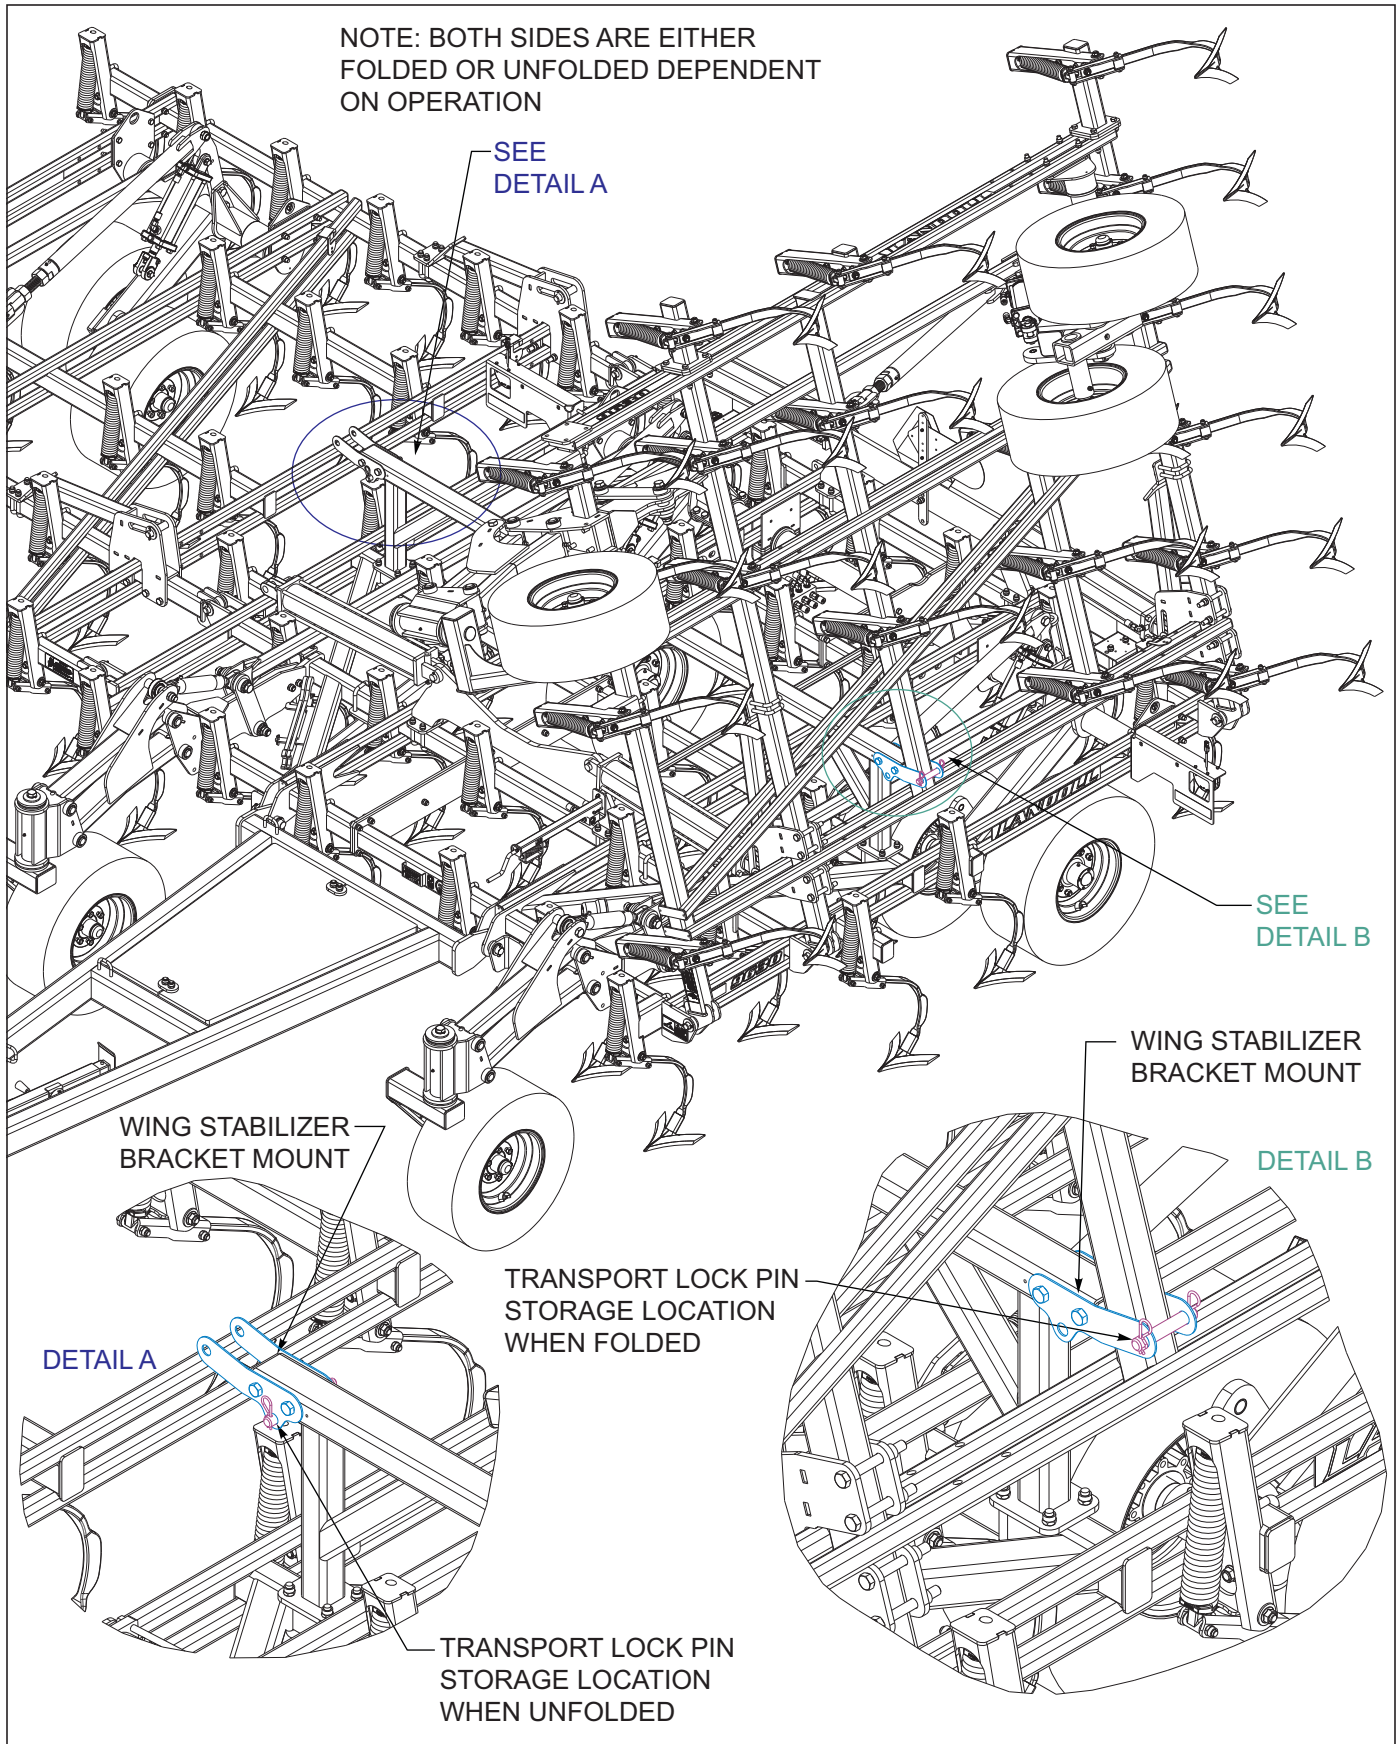

Figure 4-4: Wing Stabilizer Bracket Locks
6. To fold/unfold the Field Cultivator, find a level area large enough to accommodate the machine when it is fully unfolded. The tractor should be stopped and not moving with the implement fully raised. Remove the wing transport lock pins from the mounts and install them in the storage locations See Figure 4-4.
7. Slowly engage the tractor lever and fold/unfold the wing frames. When the wings are unfolded, continue holding the tractor lever to fully extend all fold cylinders. This will allow the wings to fully flex in the field. When the unit is fully folded, remove the wing transport lock pins from the storage location and install in the mounts provided on each side of the machine See Figure 4-4.
9. Storage - For extended periods of non use, it is best to store the Field Cultivator inside if possible. If the unit must be stored outside for extended periods, is best to apply a light coating of oil or grease to exposed cylinder rods to prevent them from rusting. If the unit is stored in the folded position, make sure the wing transport lock pins are installed to prevent wing frames settling See Figure 4-4.